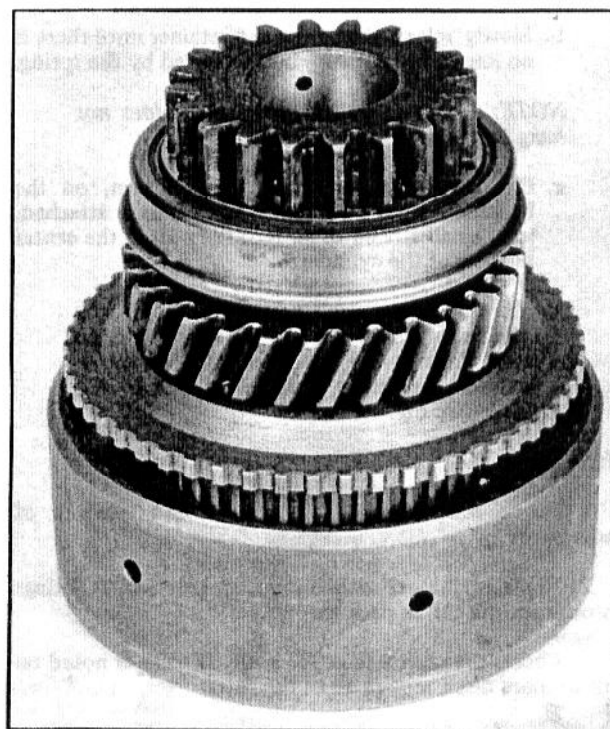

Fig. 38 — Output Shaft Removed
5. Remove the snap ring securing the output shaft to the clutch cylinder and slide the output shaft straight up and out of the cylinder assembly. See Fig. 38.